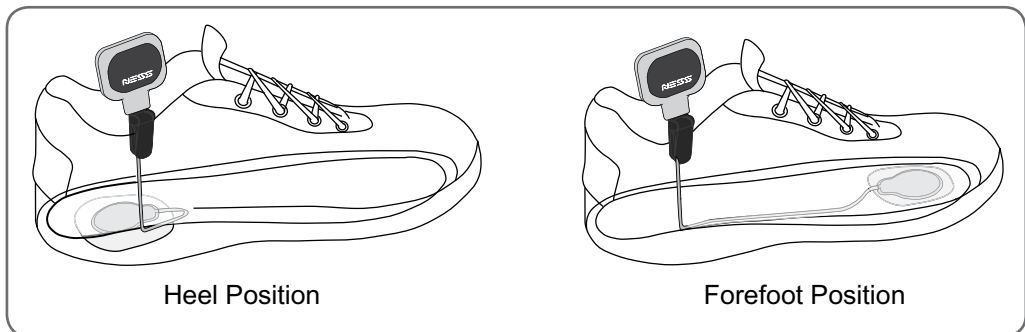

Figure 6-9: Insole covering the pressure sensor and wire. (Left shoe shown.)
6. Cover the pressure sensor with the insole. Tuck any excess wire under the insole. See Figure 6-9.